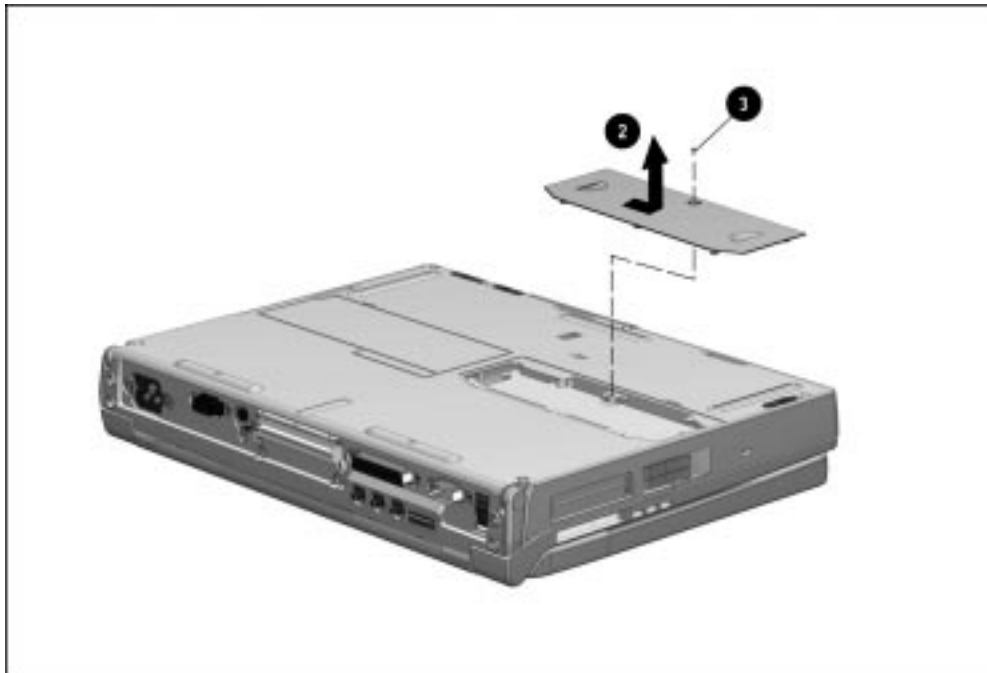

Figure 5-25. Removing the Memory Expansion Slot Cover
4. Remove the screw that secures the memory expansion slot cover to the computer ❶ (Figure 5-25). A security wrench is needed to remove the screw securing the cover.
5. Slide the cover to the right ❷ and lift it straight up to remove it.